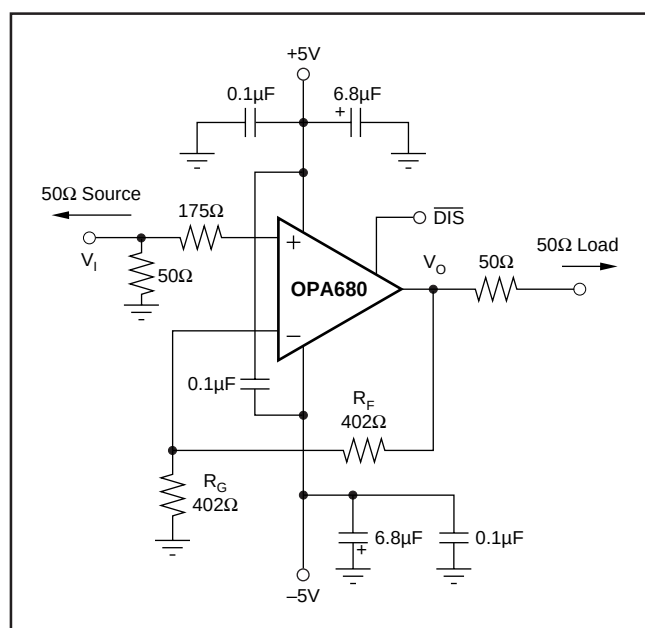
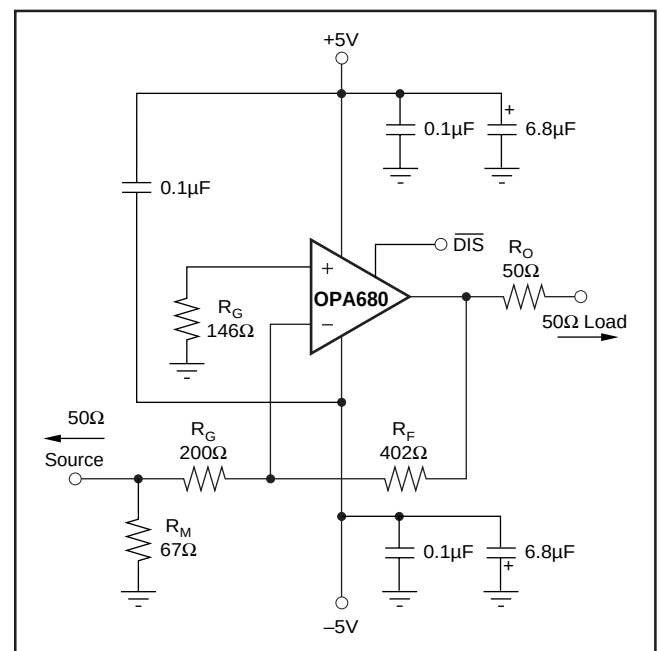

FIGURE 1. DC-Coupled, $G = +2$, Bipolar Supply, Specification and Test Circuit.
FIGURE 8. Gain of -2 Example Circuit.
At $T_A = +25^\circ C$, $G = +2$, $R_F = 402\Omega$, and $R_L = 100\Omega$, unless otherwise noted. See Figure 1.
Figure 1 shows the DC-coupled, gain of +2, dual power supply circuit configuration used as the basis of the $\pm 5\text{V}$ Specifications and Typical Performance Curves. For test purposes, the input impedance is set to 50Ω with a resistor to ground and the output impedance is set to 50Ω with a series output resistor. Voltage swings reported in the specifications are taken directly at the input and output pins, while output powers (dBm) are at the matched 50Ω load. For the circuit of Figure 1, the total effective load will be $100\Omega \parallel 804\Omega$. The disable control line is typically left open to guarantee normal amplifier operation. Two optional components are included in Figure 1. An additional resistor (175Ω) is included in series with the non-inverting input. Combined with the 25Ω DC source resistance looking back towards the signal generator, this gives an input bias current cancelling resistance that
A good rule of thumb is to target the parallel combination of R_F and R_G (Figure 1) to be less than approximately 300Ω . The combined impedance $R_F \parallel R_G$ interacts with the inverting input capacitance, placing an additional pole in the feedback network and thus, a zero in the forward response. Assuming a $2pF$ total parasitic on the inverting node, holding $R_F \parallel R_G < 300\Omega$ will keep this pole above $250MHz$. By itself, this constraint implies that the feedback resistor R_F can increase to several $k\Omega$ at high gains. This is acceptable as long as the pole formed by R_F and any parasitic capacitance appearing in parallel is kept out of the frequency range of interest.
Voltage feedback op amps exhibit decreasing closed-loop bandwidth as the signal gain is increased. In theory, this relationship is described by the Gain Bandwidth Product (GBP) shown in the specifications. Ideally, dividing GBP by the non-inverting signal gain (also called the Noise Gain, or NG) will predict the closed-loop bandwidth. In practice, this only holds true when the phase margin approaches 90° , as it does in high gain configurations. At low gains (increased feedback factors), most amplifiers will exhibit a more complex response with lower phase margin. The OPA680 is compensated to give a slightly peaked response in a non-inverting gain of 2 (Figure 1). This results in a typical gain of +2 bandwidth of $220MHz$, far exceeding that predicted by dividing the $300MHz$ GBP by 2. Increasing the gain will cause the phase margin to approach 90° and the bandwidth to more closely approach the predicted value of (GBP/NG) . At a gain of +10, the $30MHz$ bandwidth shown in the Typical Specifications agrees with that predicted using the simple formula and the typical GBP of $300MHz$.
Frequency response in a gain of +2 may be modified to achieve exceptional flatness simply by increasing the noise gain to 2.5. One way to do this, without affecting the +2 signal gain, is to add an 804Ω resistor across the two inputs in the circuit of Figure 1. A similar technique may be used
Since the OPA680 is a general purpose, wideband voltage feedback op amp, all of the familiar op amp application circuits are available to the designer. Inverting operation is one of the more common requirements and offers several performance benefits. Figure 8 shows a typical inverting configuration where the I/O impedances and signal gain from Figure 1 are retained in an inverting circuit configuration.
amplifier output. For an inverting gain of 2, setting R_G to 50Ω for input matching eliminates the need for R_M but requires a 100Ω feedback resistor. This has the interesting advantage that the noise gain becomes equal to 2 for a 50Ω source impedance—the same as the non-inverting circuits considered above. However, the amplifier output will now see the 100Ω feedback resistor in parallel with the external load. In general, the feedback resistor should be limited to the 200Ω to $1.5k\Omega$ range. In this case, it is preferable to increase both the R_F and R_G values as shown in Figure 8, and then achieve the input matching impedance with a third resistor (R_M) to ground. The total input impedance becomes the parallel combination of R_G and R_M .
The second major consideration, touched on in the previous paragraph, is that the signal source impedance becomes part of the noise gain equation and hence influences the bandwidth. For the example in Figure 8, the R_M value combines in parallel with the external 50Ω source impedance, yielding an effective driving impedance of $50\Omega \parallel 67\Omega = 28.6\Omega$. This impedance is added in series with R_G for calculating the noise gain (NG). The resultant NG is 2.8 for Figure 8, as opposed to only 2 if R_M could be eliminated as discussed above. The bandwidth will therefore be slightly lower for the gain of -2 circuit of Figure 8 than for the gain of $+2$ circuit of Figure 1.
The third important consideration in inverting amplifier design is setting the bias current cancellation resistor on the non-inverting input (R_B). If this resistor is set equal to the total DC resistance looking out of the inverting node, the output DC error, due to the input bias currents, will be reduced to (Input Offset Current) $\cdot R_F$. If the 50Ω source impedance is DC-coupled in Figure 8, the total resistance to ground on the inverting input will be 228Ω . Combining this in parallel with the feedback resistor gives the $R_B = 146\Omega$ used in this example. To reduce the additional high frequency noise introduced by this resistor, it is sometimes bypassed with a capacitor. As long as $R_B < 350\Omega$, the capacitor is not required since the total noise contribution of all other terms will be less than that of the op amp's input noise voltage. As a minimum, the OPA680 requires an R_B value of 50Ω to damp out parasitic-induced peaking—a direct short to ground on the non-inverting input runs the risk of a very high frequency instability in the input stage.
The OPA680 provides good distortion performance into a 100Ω load on $\pm 5V$ supplies. Relative to alternative solutions, it provides exceptional performance into lighter loads and/or operating on a single +5V supply. Generally, until the fundamental signal reaches very high frequency or power levels, the 2nd harmonic will dominate the distortion with a negligible 3rd harmonic component. Focusing then on the 2nd harmonic, increasing the load impedance improves distortion directly. Remember that the total load includes the feedback network; in the non-inverting configuration (Figure 1) this is sum of $R_F + R_G$, while in the inverting configuration, it is just R_F . Also, providing an additional supply decoupling capacitor (0.1μF) between the supply pins (for bipolar operation) improves the 2nd-order distortion slightly (3dB to 6dB).
Evaluating these two equations for the OPA680 circuit and component values shown in Figure 1 will give a total output spot noise voltage of $11\text{nV}/\sqrt{\text{Hz}}$ and a total equivalent input spot noise voltage of $5.5\text{nV}/\sqrt{\text{Hz}}$. This is including the noise added by the bias current cancellation resistor (175Ω) on the non-inverting input. This total input-referred spot noise voltage is only slightly higher than the $4.8\text{nV}/\sqrt{\text{Hz}}$ specification for the op amp voltage noise alone. This will be the case
as long as the impedances appearing at each op amp input are limited to the previously recommended maximum value of 300Ω . Keeping both $(R_F \parallel R_G)$ and the non-inverting input source impedance less than 300Ω will satisfy both noise and frequency response flatness considerations. Since the resistor-induced noise is relatively negligible, additional capacitive decoupling across the bias current cancellation resistor (R_B) for the inverting op amp configuration of Figure 8 is not required.
The balanced input stage of a wideband voltage feedback op amp allows good output DC accuracy in a wide variety of applications. The power supply current trim for the OPA680 gives even tighter control than comparable products. Although the high speed input stage does require relatively high input bias current (typically $14\mu\text{A}$ out of each input terminal), the close matching between them may be used to reduce the output DC error caused by this current. The total output offset voltage may be considerably reduced by matching the DC source resistances appearing at the two inputs. This reduces the output DC error due to the input bias currents to the offset current times the feedback resistor. Evaluating the configuration of Figure 1, using worst-case $+25^\circ\text{C}$ input offset voltage and current specifications, gives a worst-case output offset voltage equal to: – (NG = non-inverting signal gain)